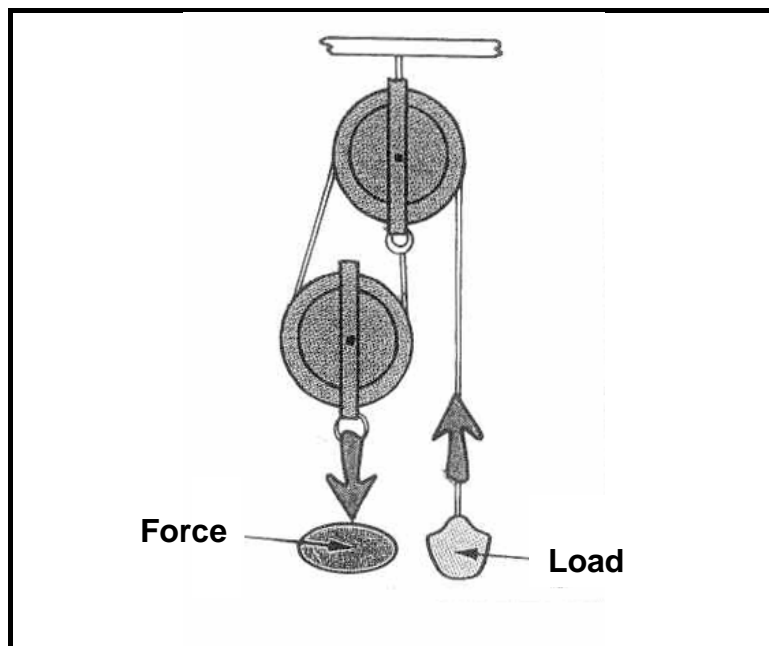

FIGURE 1.6
1.16 What is the name of the series of pulleys with attached rope or chain, as shown in FIGURE 1.6?